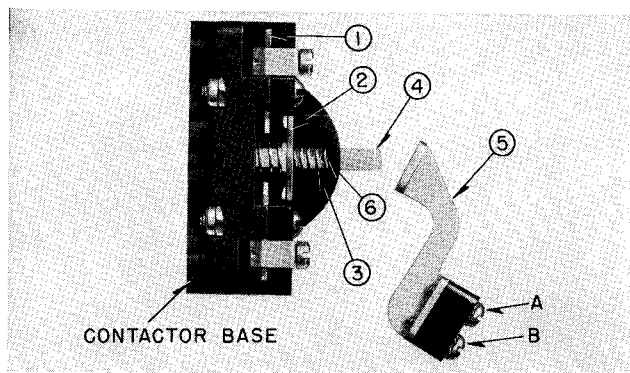
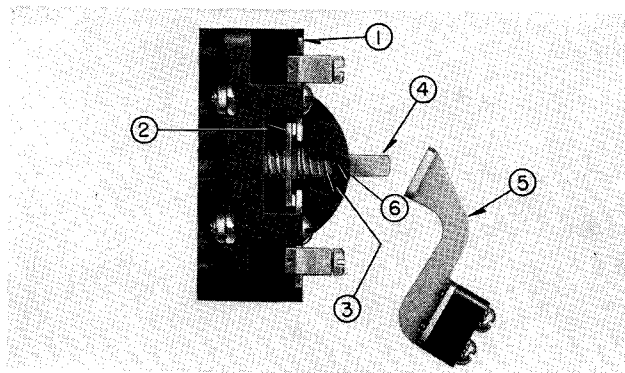

FIG. 2. Normally Open Interlock
FIG. 3. Normally Closed Interlock
This contactor comes equipped with one normally open interlock. By removing this interlock, shown in Fig. 2, and reassembling parts 1, 2 and 3 per Fig. 3, the interlock is changed from normally open to normally closed contact. The change is simplified by first placing the contactor in the normal vertical operating position and by proceeding as follows:
1. Swing arm (5) out of way by removing screw A and loosening screw B. (See Fig. 2).
2. To detach upper spring (3) from plunger (4) compress inturned end of spring against contact bar (2) and rotate spring until it disengages hole (6).
3. Operate reassembled interlock by hand to check freedom of moving parts before reassembling arm (5) into original position.